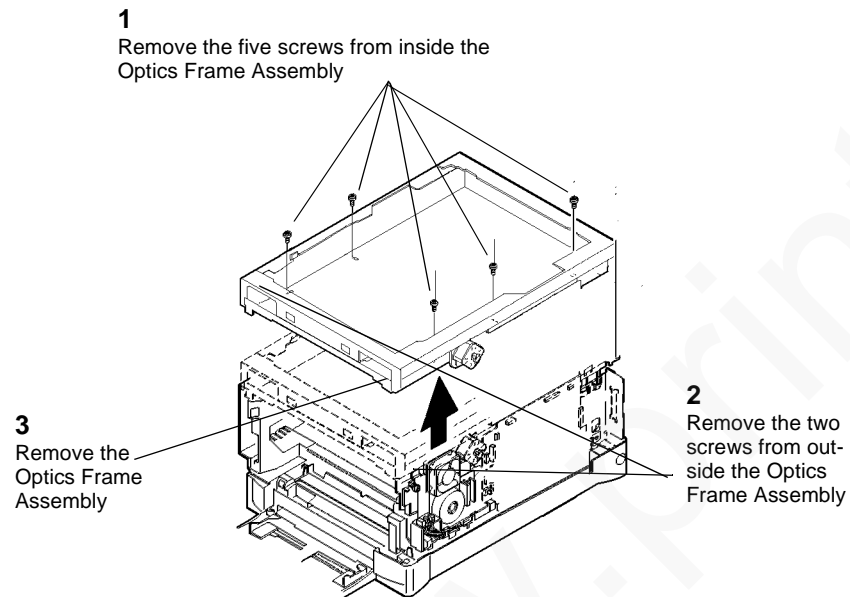

Figure 1 Removing the Optics Frame Assembly
3. (Figure 1): Remove the Optics Frame Assembly.